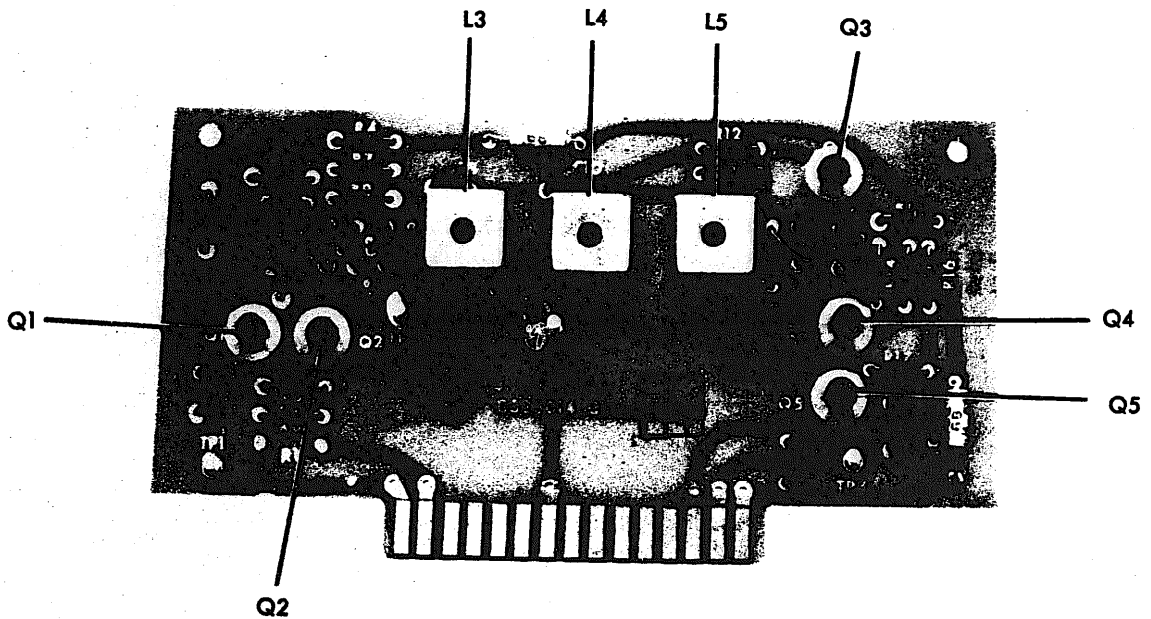

Figure 4-7 Module A4, Signal IF CO2301400
- (1) Follow the same alignment procedure as in paragraph 5.g. (1)-(4).
8. Signal IF, module A4 (Figure 4-7)